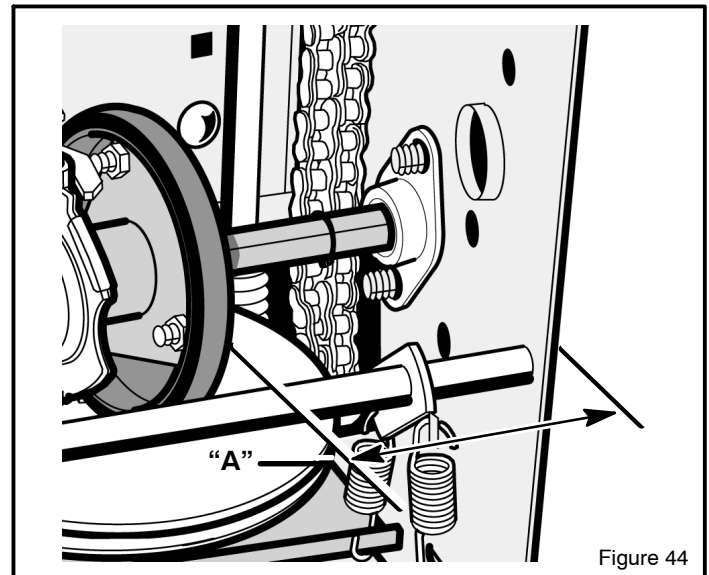

Figure 44
6. Note the position of the **friction wheel** (see Figure 44). The correct distance "A" from the right side of the **friction wheel** to the outside of the motorbox is as follows:
3. Move the **friction wheel** to the correct position (see Figure 44).